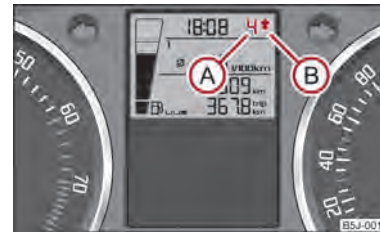

Fig. 4 Shift recommendation for changing gears ▶
An information for the engaged gear (A) ⇒ fig. 4 is shown in the display of the instrument cluster.